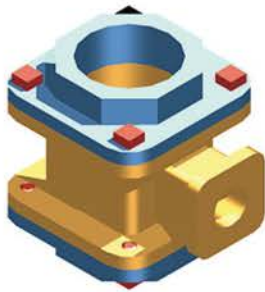

Fig. 18.9 Second example UCS
13. Move the parts into their correct position relative to each other. **Union** the two filleted rectangular extrusions and the main body. **Subtract** the cylinder from the whole (Fig. 18.9).